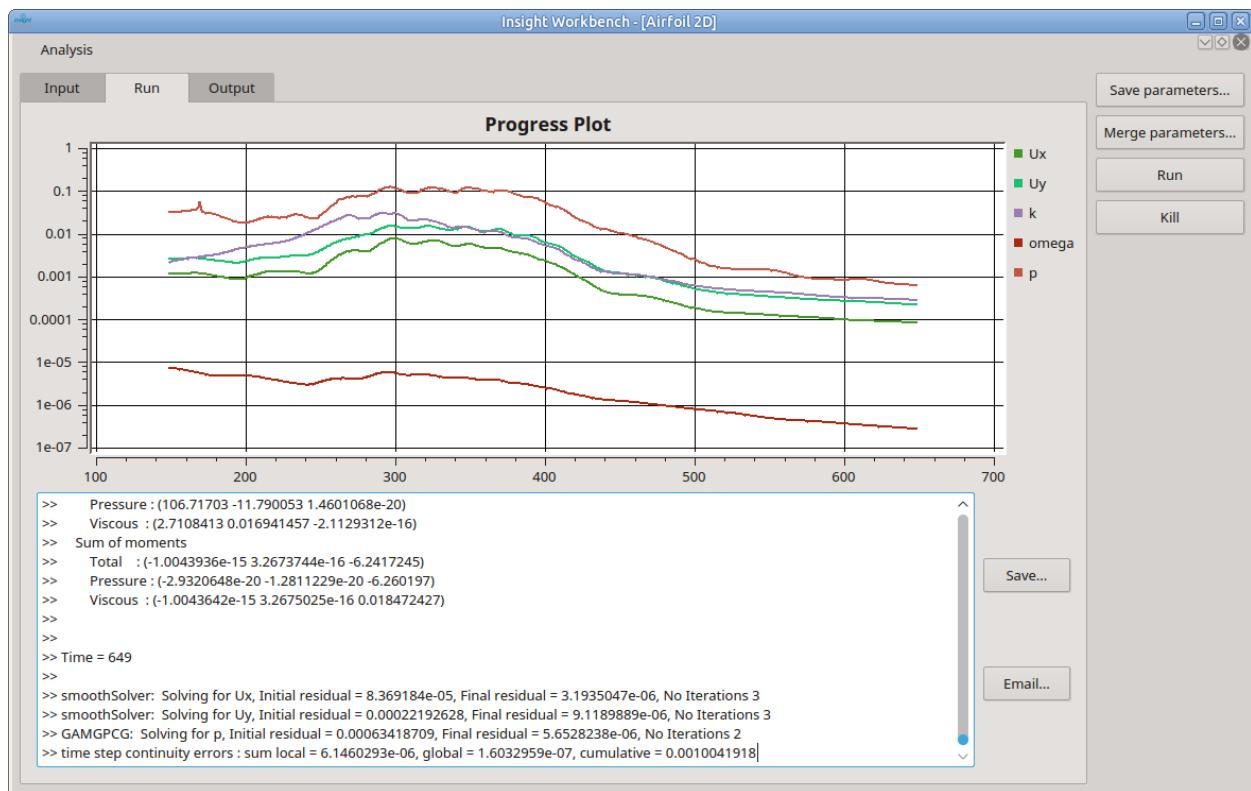

Figure 6: Solution progress tab of the workbench
**Running the Analysis** With a properly edited parameter set, the analysis run can be started. This is achieved by clicking on the button "Run" on the right side or by selecting in the menu. This analysis form switches automatically to the "Run" tab (see figure 6). In the lower half, the log message are displayed. Sometimes, errors in an external program occur and are not correctly reported. It is therefore a good practice to watch the log messages for errors or warnings.